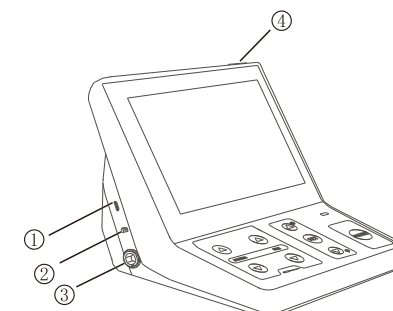

Fig. 1
Align the ←→ mark of the cord plug with the notch of the motor handpiece socket ① (Fig.1) at the left side of the device and insert the plug until it locks.